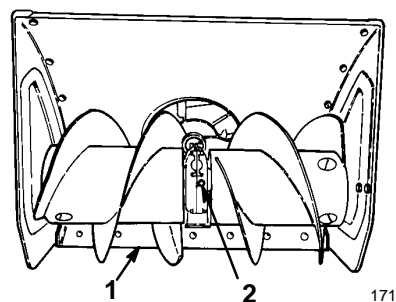

Figure 15
- Move the snowthrower onto a flat surface and check that the scraper (Fig. 15) is parallel to the ground. If it is not, adjust the scraper; refer to *Adjusting the Scraper and Skids* on page 23.
3. Remove the pipe plug from the gear box (Fig. 15).